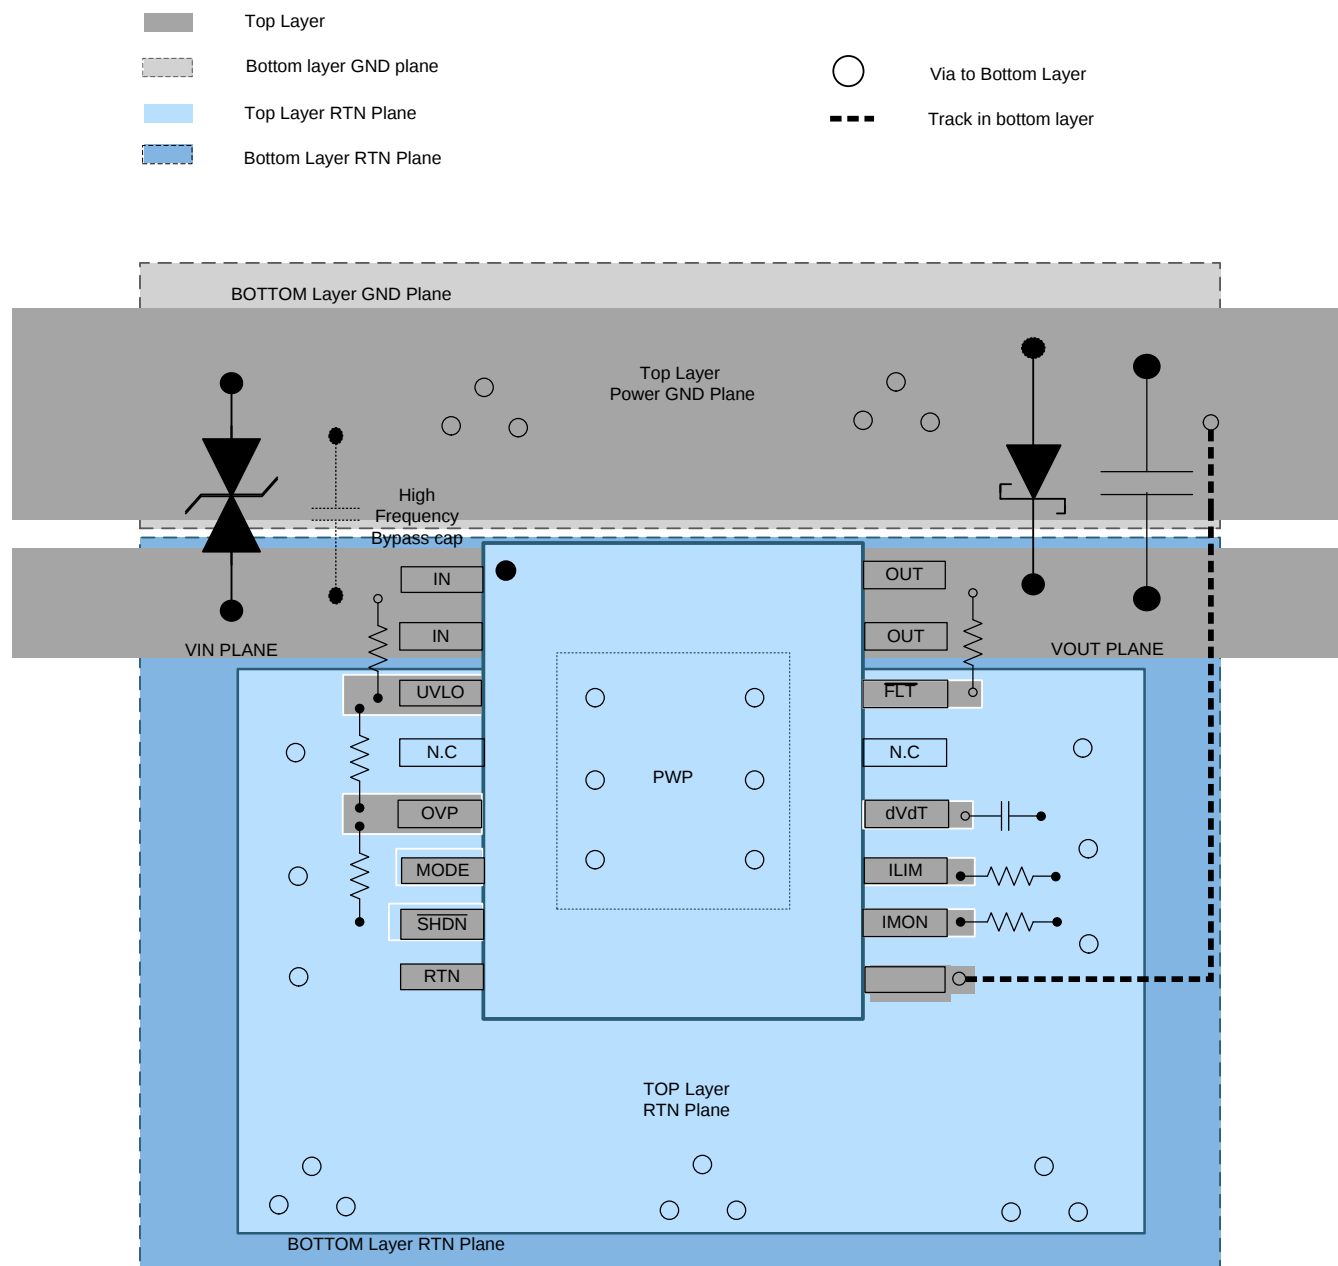

Figure 71. Typical PCB Layout Example with HTSSOP Package with a 2 Layer PCB
- The optimum placement of decoupling capacitor is closest to the IN and GND terminals of the device. Care must be taken to minimize the loop area formed by the bypass-capacitor connection, the IN terminal, and the GND terminal of the IC. See Figure 71 and Figure 72 for PCB layout examples with HTSSOP and VQFN packages respectively.